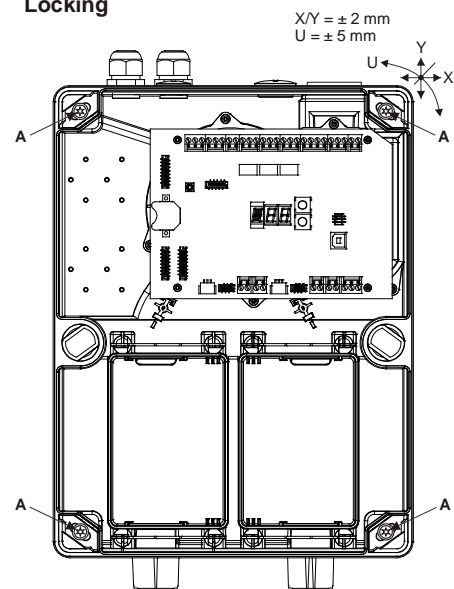

Fig. 3 Opening, closing and locking the detector housing
- To use the rotary snap locks, press firmly with the screwdriver toward the housing base and then turn 90°. The position of the lock slit shows the current state (see Fig. 3):